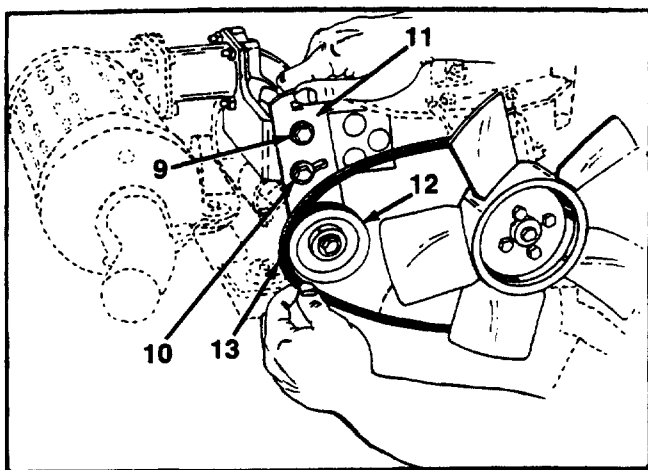

FIGURE 8.
9. Pivot the idler pivot bracket and idler pulley towards the fan and remove the fan drive belt. See figure 8.